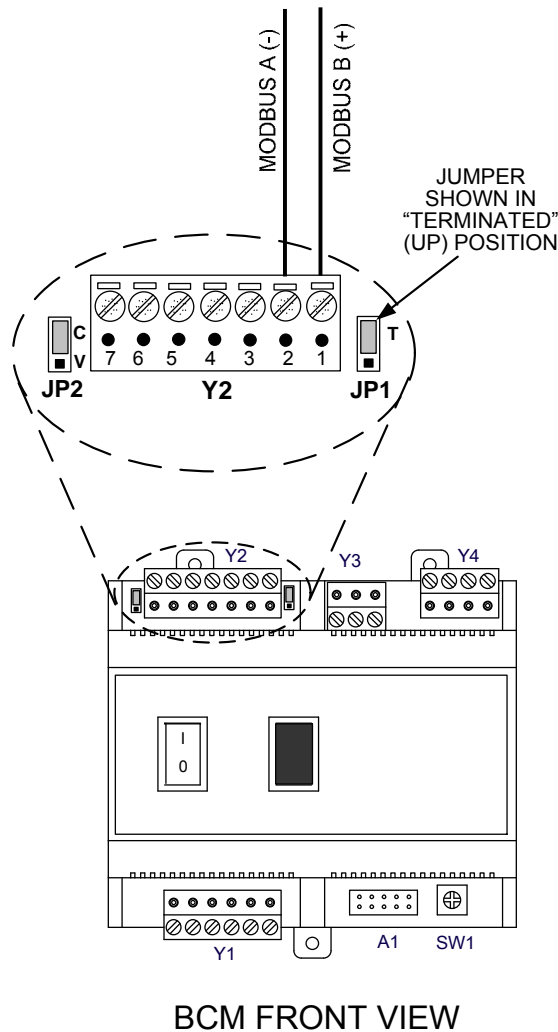

Figure 2-9. RS485 (Modbus) Wiring For Modulex Series Boilers
RS485 wiring connections are made at the MODBUS terminals of each Boiler's BCM Module as shown in Figure 2-9. Connect the wiring as follows:
4. The last BCM in the daisy-chain must have the termination jumper engaged as shown in Figure 2-9.